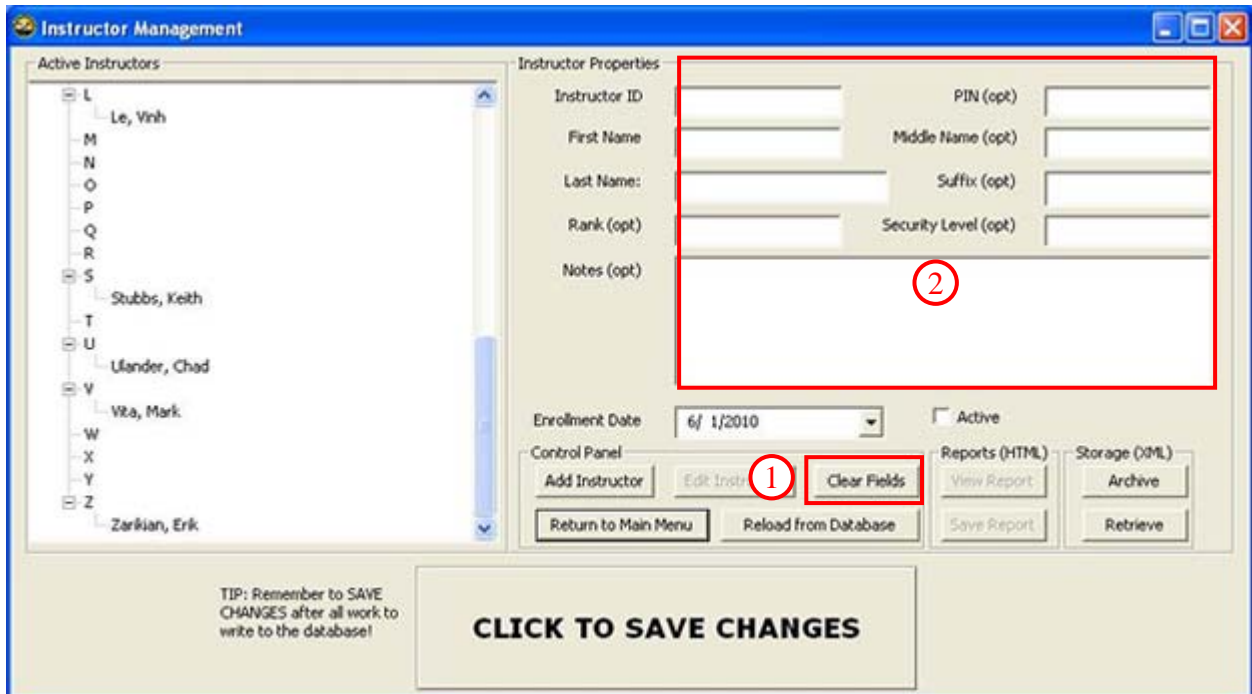

Figure 46. Instructor Management - Clear Fields
1. Click the [CLEAR FIELDS] button (Figure 46).